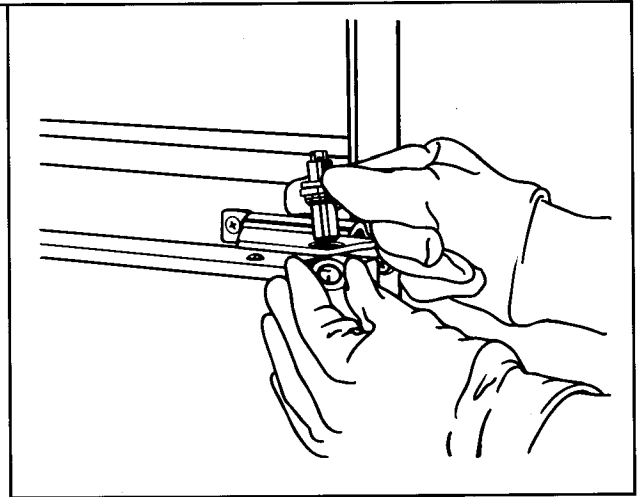

Figure 13
- a. Save plastic center hinge spacer ring(s) from center hinge pin and use in Step 16. See Figure 13.